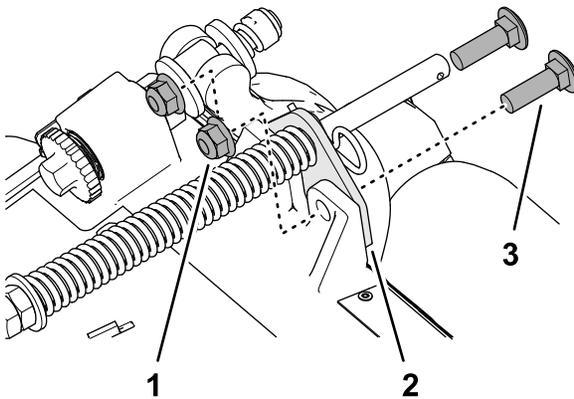

Figure 18
2. Remove the 2 flange locknuts (3/8 inch) and 2 carriage bolts (3/8 x 1-1/4 inches) that secure the turf-compensator bracket to the cutting-unit frame (Figure 18).